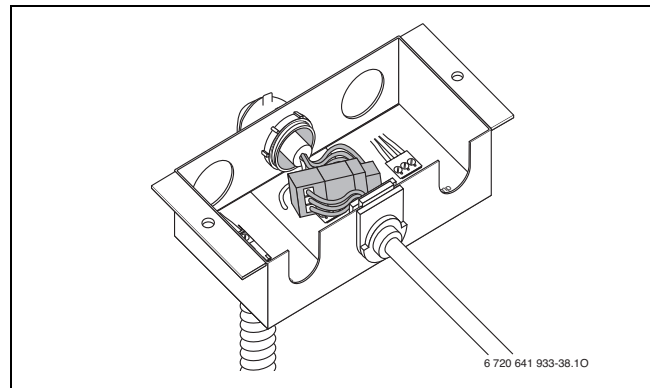

Fig. 59 Cable connected (mains power supply)
- Insert cable into the junction box as shown in Fig. 59.